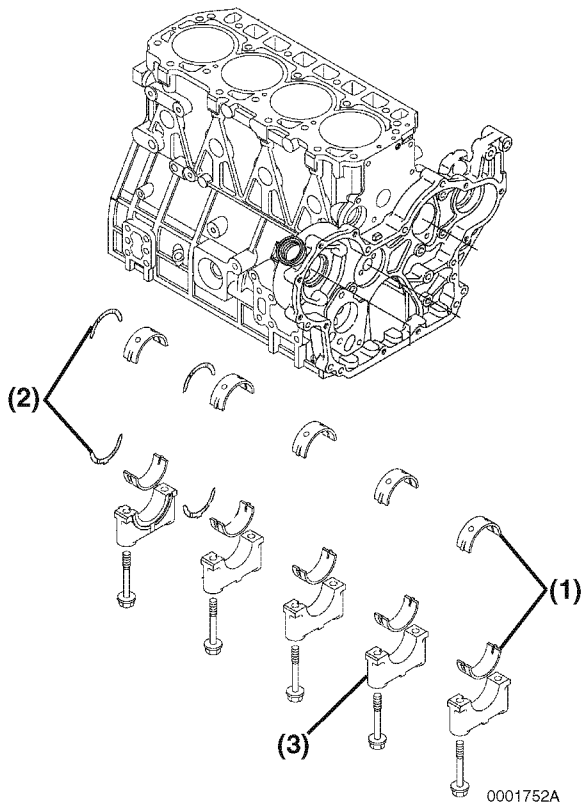

Figure 6-76
2. Position the bearing halves (Figure 6-76, (1)), thrust bearing (Figure 6-76, (2)) and bearing caps (Figure 6-76, (3)) on the crankshaft.